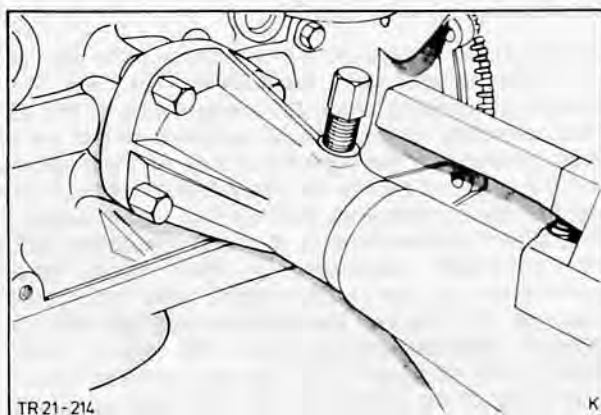

Fig. 28. Secure engine to stand using mounting bracket 21-031
1. Secure engine to stand by means of engine mounting bracket 21-031, and universal spindle 21-023, Fig. 28.